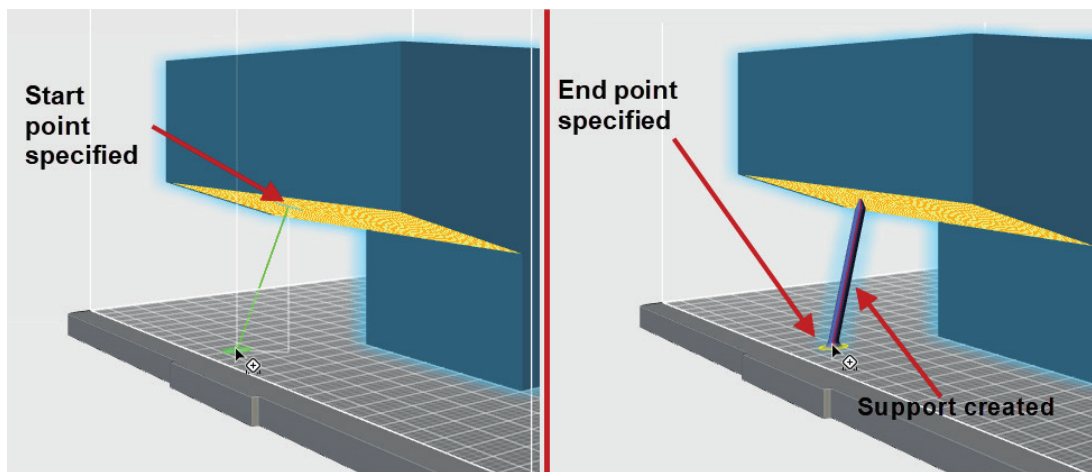

Figure-56. Creating support manually
- Click on the **Manual Supports** tool from the left toolbar to manually define supports for the model. You will be asked to specify start and end points of the support. Click at the desired locations on model and printer bed to create support; refer to Figure-56. Create as many supports as required.